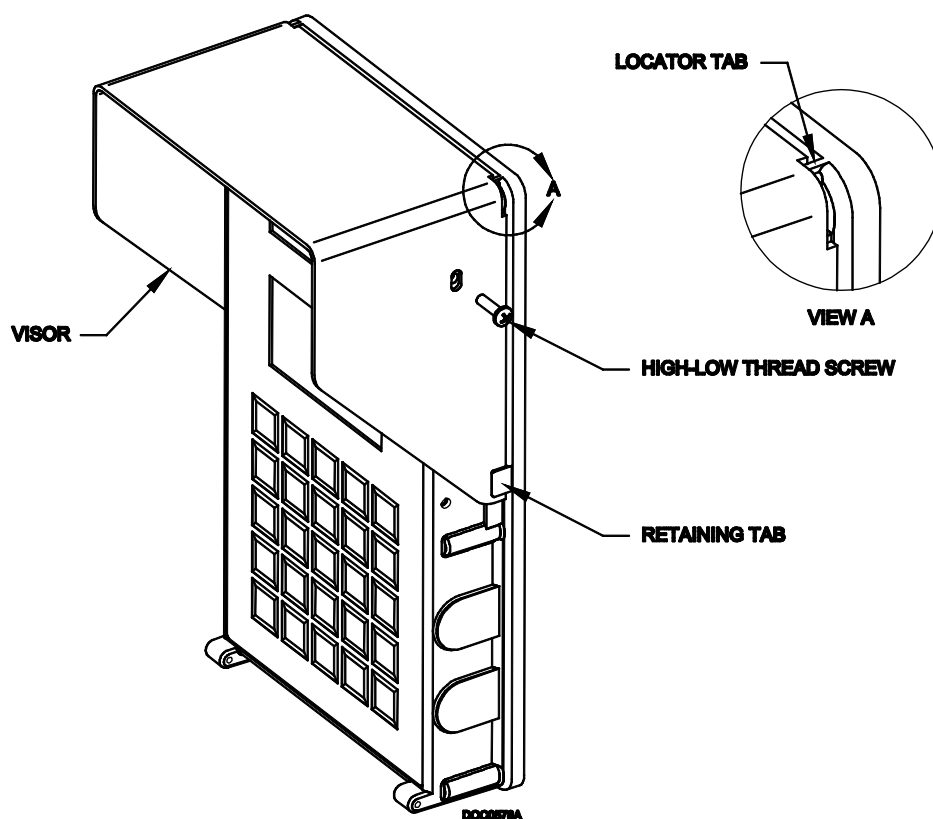

Figure 2-4. Keypad Display with Installed Visor
The visor shades the display so you can see it easily in direct sunlight (see *Figure 2-4*). Typically, the visor is factory-installed unless you order it later as a kit. If you order a visor kit, a Keypad Display Visor Installation Sheet (Form A6176) accompanies the kit.
1. Place the visor onto the upper portion of the keypad display. Refer to *Figure 2-4* to ensure that the visor fits **into** the retaining tabs.